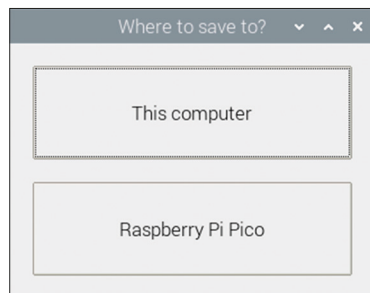

Figure 2.7: Click **Raspberry Pi Pico** to save your program.
- Click **File** followed by **Save As** and give a name to your program. e.g., **FirstProg**. You have the option of storing the program either on your PC (**This computer**) or on the Pico (**Raspberry Pi Pico**). Click **Raspberry Pi Pico** to save it on the Pico (Figure 2.7). Enter the name of your program (**FirstProg**) and click **OK** (notice that the file is saved with the extension **.py**).